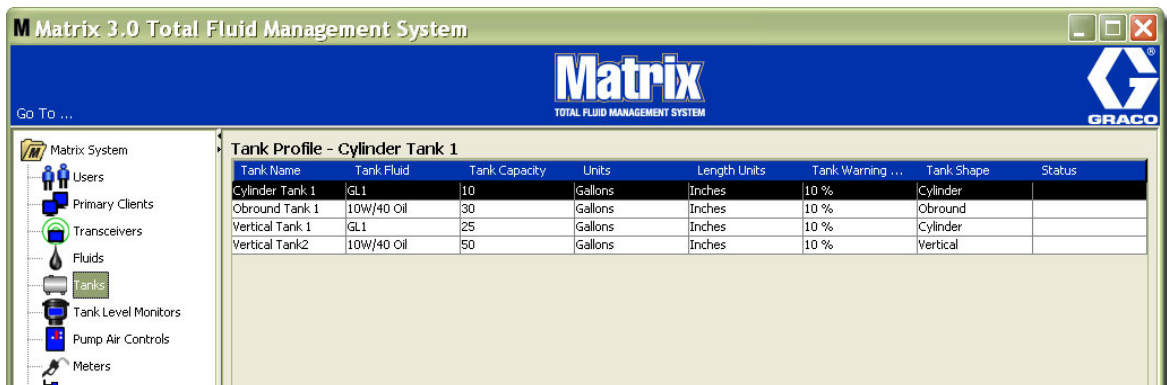

FIG. 103
1. When all required information for the tank profile has been supplied, click OK to close the screen and save the changes. The tank is added to the list as shown in FIG. 103.
2. To modify a Tank profile (FIG. 103) highlight the entry listed on the main Tanks screen as shown in FIG. 103.